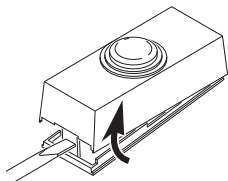
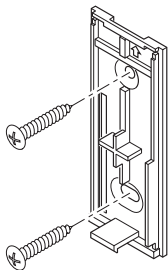

Figure 1
Figure 3
- 1. Remove orange battery tab from push button.** Remove back of case by pushing in tab on bottom with a small screwdriver (see Figure 1). Remove orange battery tab.
- **Screw Mounting:** To mount with screws, remove back of case by pushing in tab on bottom with a small screwdriver (see Figure 1). *Note:* Remove material in screw holes (if needed) before mounting with screws. Attach back of case to door jamb or wall (see Figure 3). Snap front of push button on.